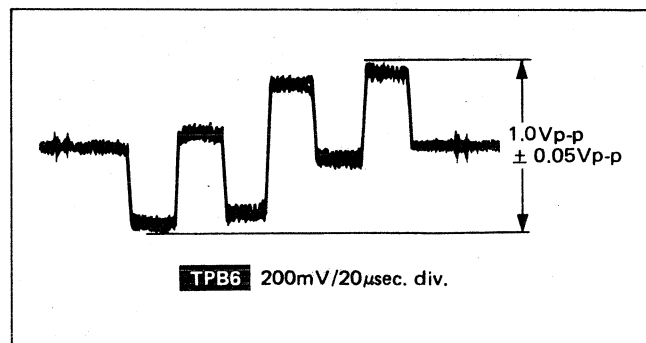

Fig. 25
6. Measure and record the amplitude of the waveform **TPB6** as shown in Fig. 25.